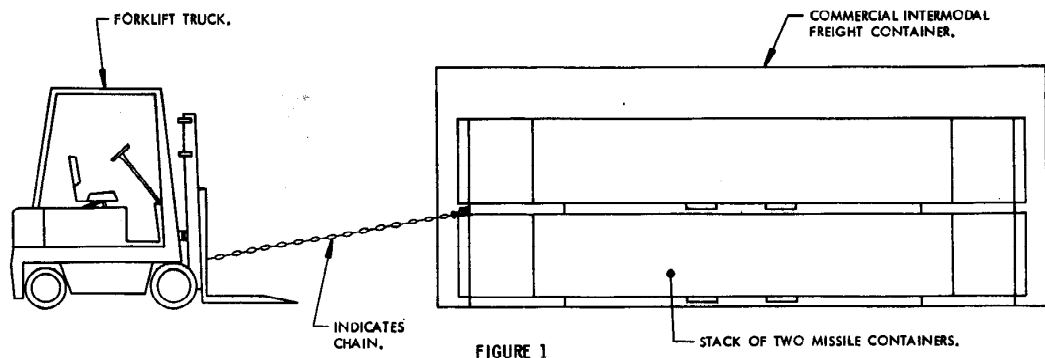

FIGURE 1
2. ATTACH CHAIN FROM TIEDOWN RING ON BOTTOM CANISTER TO THE FORKLIFT TRUCK AS SHOWN IN FIGURE 1 ABOVE.